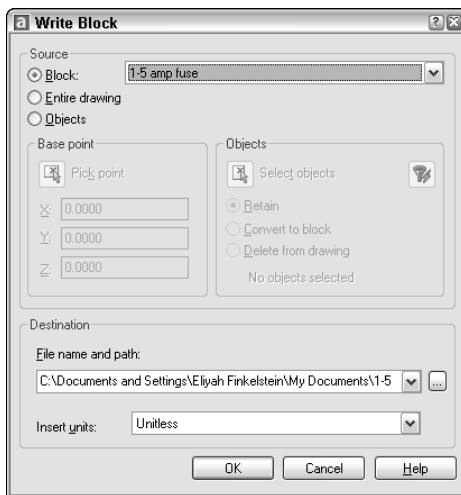

Figure 18-6: Use the Write Block dialog box to save a block as a separate drawing file.
2. In the Write Block dialog box, shown in Figure 18-6, choose the location (drive and folder) for the file.